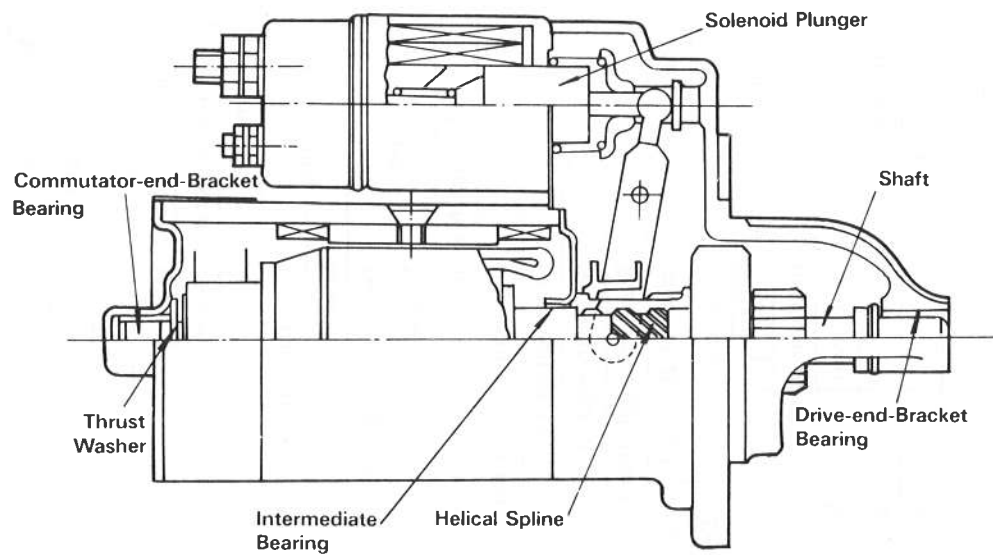

Fig. 5.7 Lubrication Chart
- a) Ensure that the parts indicated in Fig. 5.7 are lubricated with "Shell Alvania Grease No. 2" or the equivalent high melting point grease.